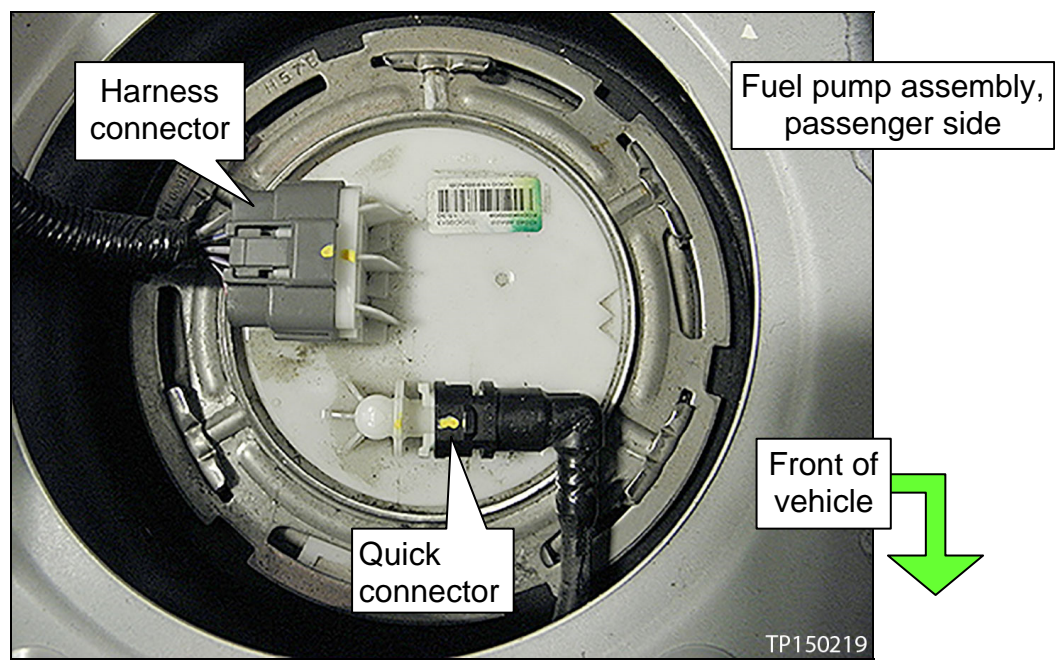

Figure 16
27. Reconnect the quick connector and harness connector to the fuel pump assembly (Figure 16).